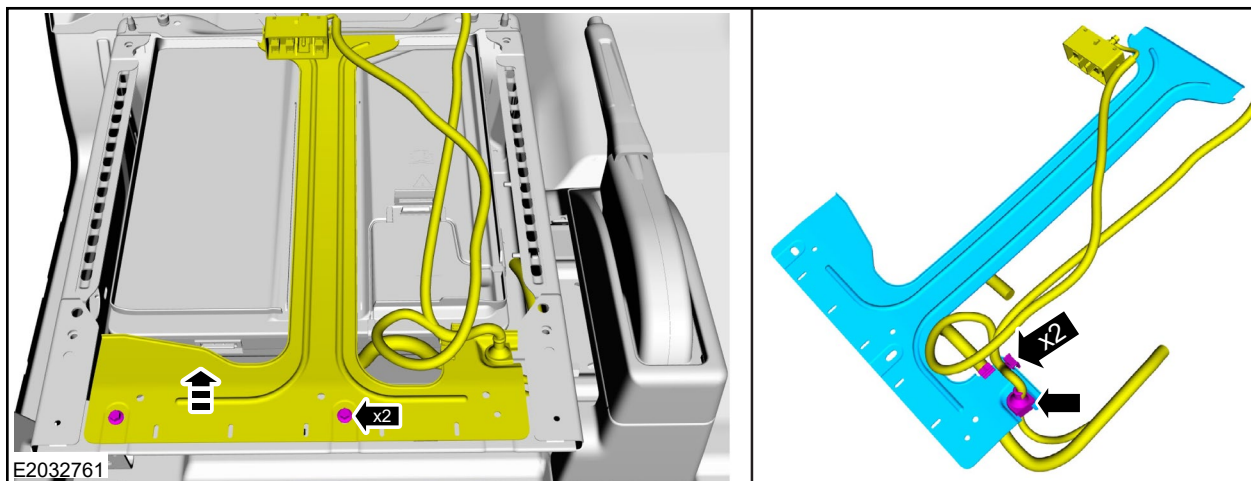

FIGURE 27
2. Install the battery hold-down bracket, bolts and the wire harness retainers to the battery hold down bracket on the driver's seat. See Figure 27.